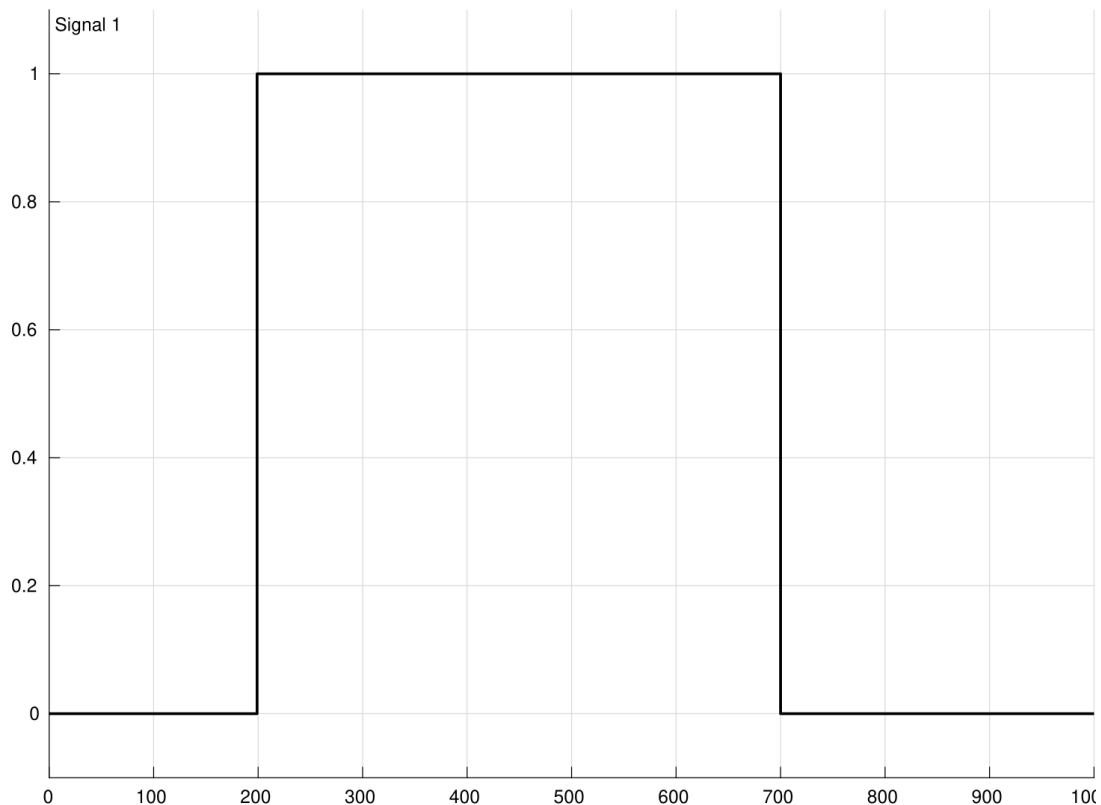

Figure 1: The desired speed x_R of the robot pushing a shopping trolley system. The controller should try to drive the system to this response.
Extend the Simulink model you developed in Section 1 with a PID controller, so that the speed of the robot follows the desired speed shown in Figure 1. The total simulation time is 1000 secs and the robot starts with a speed of 0, increasing its speed to 1 after 200 secs and keeping this speed for 500 secs before coming to a rest (speed equals to 0) at time $t = 700$ secs.
To generate the signal shown in Figure 1 which is the desired speed (response) of the dynamic system, you should use the *Signal Editor* Simulink block found under the *Sources* library of blocks. Then:
10. Alternatively to the steps above, you could use the superposition of 2 step signals with the appropriate values added together (using the Add block) to construct the signal given to you in the Figure 1.